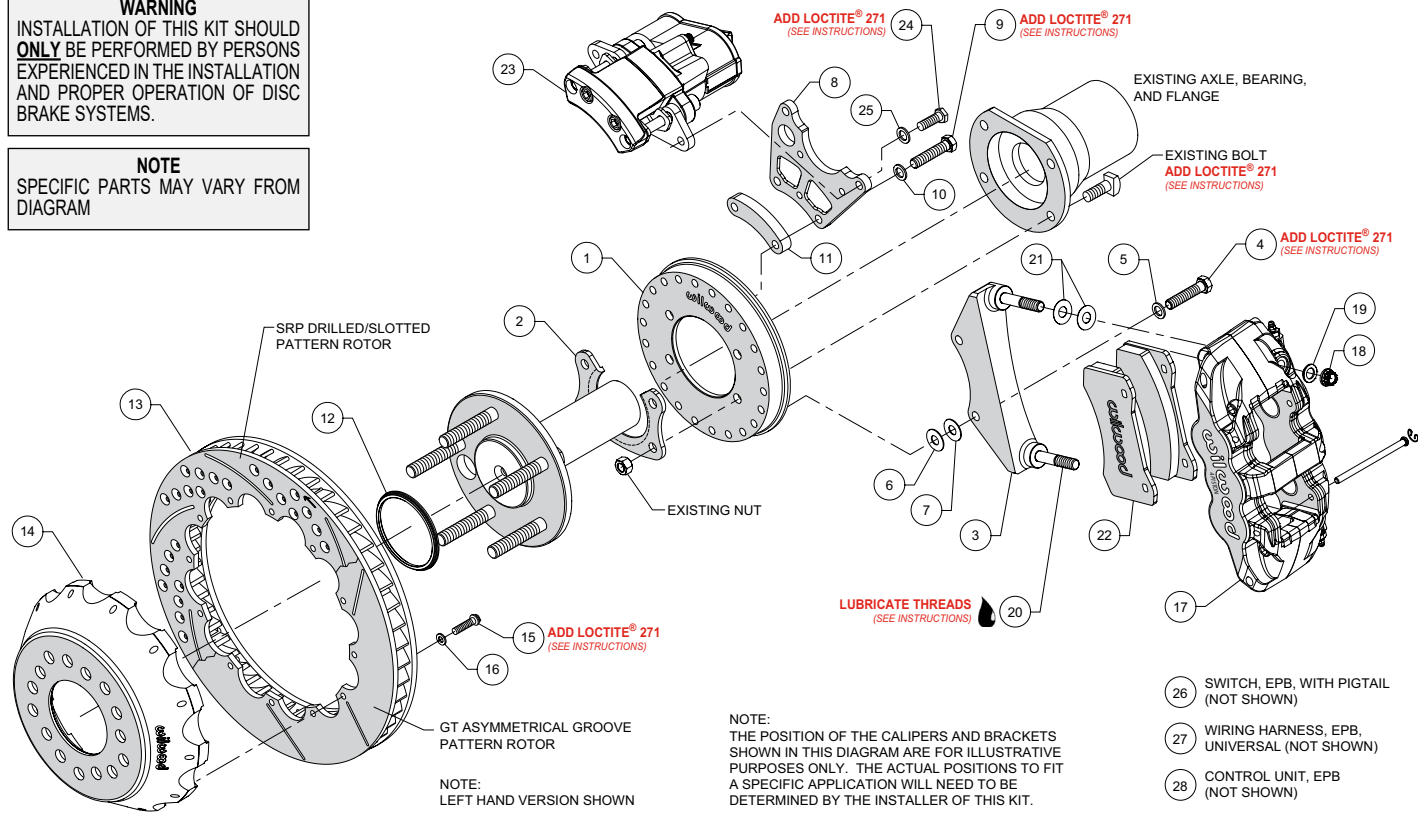
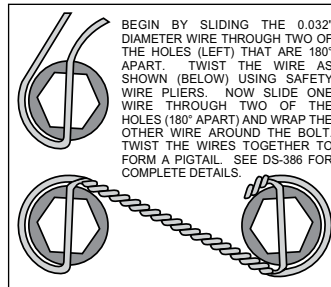

Figure 1. Typical Installation Configuration
Figure 5. Safety Wire Diagram
NOTE: Numbers in parenthesis refer to the parts list, and Figure 1 on the preceding pages.
- Orient the backing plate (1) as shown in Figure 1 and Photo 1, and slide it onto the axle housing flange. Ensure the
- Install the bearing retainer (2) with the opening pointing upward and the lip facing inward (toward the bearing), as shown in Figures 1 and 4, and Photo 2. Secure retainer and backing plate to the axle housing flange using the Original Equipment Manufacturer (OEM) bolts and nuts, Figure 1 and Photo 3. Apply red *Loctite*® 271 to the OEM bolt threads and torque to OEM specifications.
- Start by determining the best location for the service caliper (17). This caliper is usually mounted in the 3:00 or 9:00 o'clock position, but may be rotated up or down approximately 45 degrees and still allow for proper bleeding, Photo 4. Orient the service caliper bracket (3) as shown in Figure 1 and Photo 5, and install to the backing plate (1) in the desired location using bolts (4) and washers (5). Temporarily tighten bolts. Next, mount the service caliper onto the bracket. Lubricate the caliper mounting studs (20) with lightweight oil. Mount the service caliper using lock nuts (18) and washers (19), Figure 1. Temporarily tighten the lock nuts. Check that the caliper (including inlet fitting and hose) has sufficient clearance to all surrounding components through the full suspension travel. Relocate the caliper/bracket on the backing plate as needed to ensure proper clearance is achieved.
- Determine the best location for the EPB caliper (23). **NOTE:** *The EPB caliper motor extends farther inboard than the service caliper and therefore needs additional consideration when determining a mounting location with sufficient clearance.* In the example application shown in Photo 6, the EPB caliper has sufficient inboard clearance to the leaf spring. However, if the EPB caliper were mounted closer to the 12:00 o'clock position, the inner body of the vehicle would hit the caliper during full compression of the suspension.
•Orient the EPB caliper bracket (8) as shown in Figure 1 and Photo 7, and install to the backing plate (1) in the desired location using bolts (9), washers (10), and spacer (11). Temporarily tighten bolts. **NOTE:** The EPB bracket is reversible. In one direction the bracket will position the EPB caliper closer to the service caliper, and vice versa if reversing the bracket. Next, mount the EPB caliper (23) to the bracket using bolts (24) and washers (25). Temporarily tighten bolts. **NOTE:** EPB calipers are Left and Right handed, however they can be used on either side of the vehicle to best suit your specific application. Check that the EPB caliper (including wiring harness connector) has sufficient clearance to all surrounding components through the full suspension travel. Relocate the EPB caliper/bracket on the backing plate as needed to ensure proper clearance is achieved.
•Orient the rotor (13) and the hat (14) as shown in Figure 1 and Photo 8. Attach rotor to hat using bolts (15) and washers (16). Apply red Loctite® 271 to the bolt threads and torque to 155 in-lb using a criss-cross pattern. For an added measure of security, the bolts may be safety wired using standard 0.032 inch diameter stainless steel safety wire as shown in Figure 5. Please refer to Wilwood's data sheet DS-386 (available at www.wilwood.com/Pdf/DataSheets/ds386.pdf) for complete safety wire installation instructions.
•Initially place two .030" thick shims (21) on each stud of the service caliper bracket (3), as shown in Figure 1 and Photo 10. Mount the caliper onto the bracket using lock nuts (18) and washers (19), Figure 1. Temporarily tighten the lock nuts and view the rotor through the top opening of the caliper. The rotor should be centered in the caliper, Photo 11. If not, adjust by adding or subtracting shims (6 and/or 7)) between the service caliper bracket (3) and the backing plate (1). Always use the same amount of shims on each of the two mounting bolts. Once the caliper alignment is correct, remove the bracket mounting bolts (4) one at a time, apply red Loctite® 271 to the threads, and torque bolts to 35 ft-lb.
- Remove the service caliper (17), then remove the two pad retaining pins from the caliper by carefully popping out the pin retaining clips and sliding out the pins. Insert the brake pads (22) into the caliper from the bottom, Figure 1 and Photo 12. With the friction material facing the rotor, secure the brake pads in place with the pad retaining pins and clips, Photo 13. Reinstall the caliper onto the mounting bracket and temporarily tighten the lock nuts. Check that the top of the brake pad is flush with the outside diameter of the rotor, Photo 14. If not, adjust by adding or subtracting shims (21) between the caliper and the bracket. After the caliper pad height is set, torque the caliper lock nuts (18) to 47 ft-lb.
- Mount the EPB caliper (23) onto the caliper mounting bracket (8) using bolts (24) and washers (25), Figure 1. Apply red *Loctite*® 271 to bolt threads, and torque to 30 ft-lb.
- NOTE:** *The service caliper (17) in this brake kit utilizes a 1/8-27 NPT pipe thread inlet. OEM rubber brake hoses generally cannot be adapted to Wilwood calipers.* The preferred method is to use steel adapter fittings at the caliper, either straight, 45 or 90 degree (use PTFE tape on pipe threads of adapter fitting for proper sealing to caliper) and enough steel braided line to allow for full suspension travel. **Carefully route hoses to prevent contact with moving suspension, brake or wheel components.** **NOTE:** *Wilwood hose kits are designed for use in many different vehicle applications and it is the installer's responsibility to properly route and ensure adequate clearance and retention for brake hose components.* Wilwood offers universal brake flex line hose kits, domestic (3/8-24 IF) chassis fittings, order: